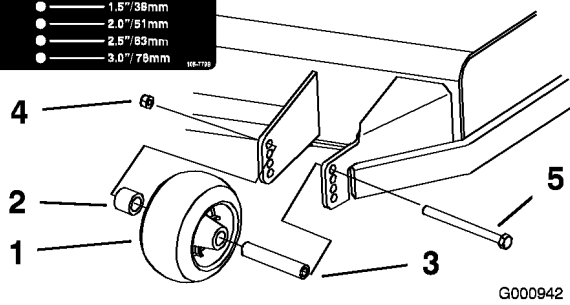
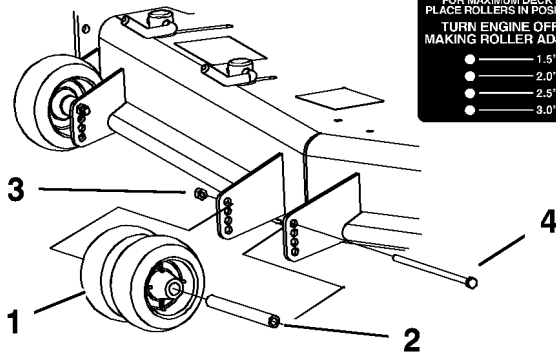
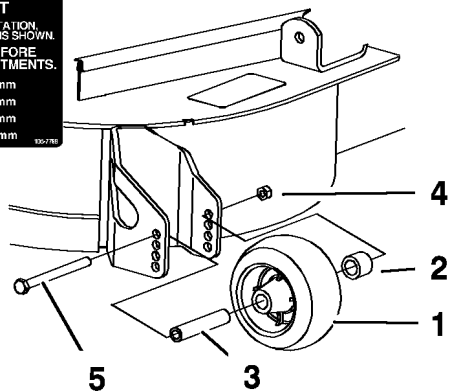

Figure 19
Figure 20
Figure 21
3. After adjusting the height-of-cut, adjust the rollers by removing the flange nut, bushing, spacer, and bolt (Figure 19 , Figure 20 and Figure 21).
- Note:** The two middle rollers will not have a spacer (Figure 20).
5. Install the flange nut, bushing, spacer, and bolt. Torque to 40-45 ft-lb (54-61 N•m) (Figure 19 , Figure 20 and Figure 21).